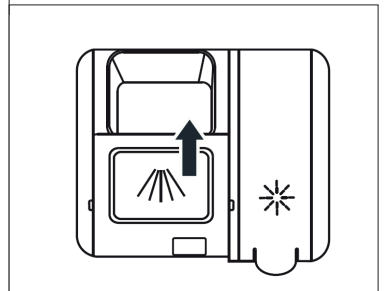

Fig. 8
3. Finally, close the flap by sliding it (Fig. 8).
For washing larger items (pots, pans, etc.) tilt the plate holders in the lower rack (Fig. 8).